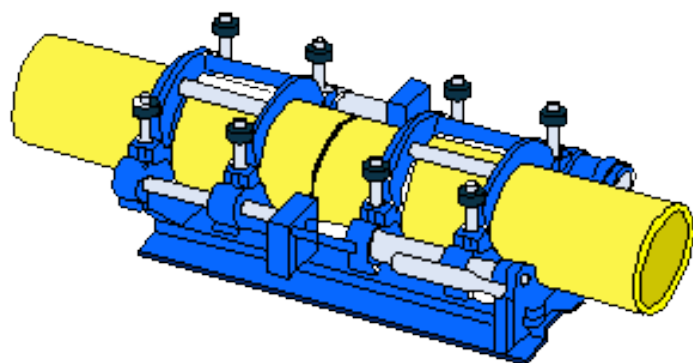

Figure E5 – Cooling Period
36. When the automated fusion cycle is complete and the cooling time, as indicated on the machine, has elapsed, carefully remove the section of pipe containing the joint from the butt fusion machine see Figure E5. **Fusion cooling times must not be aborted unless the joint is to be discarded.**